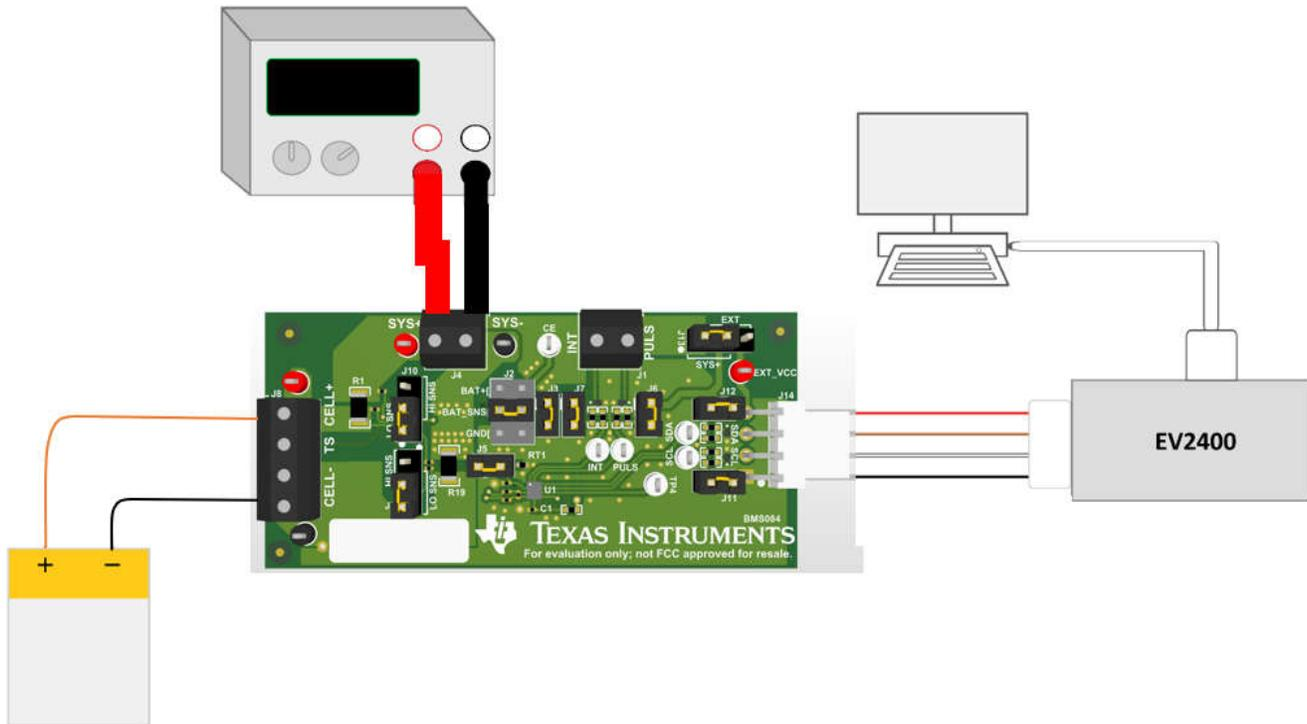
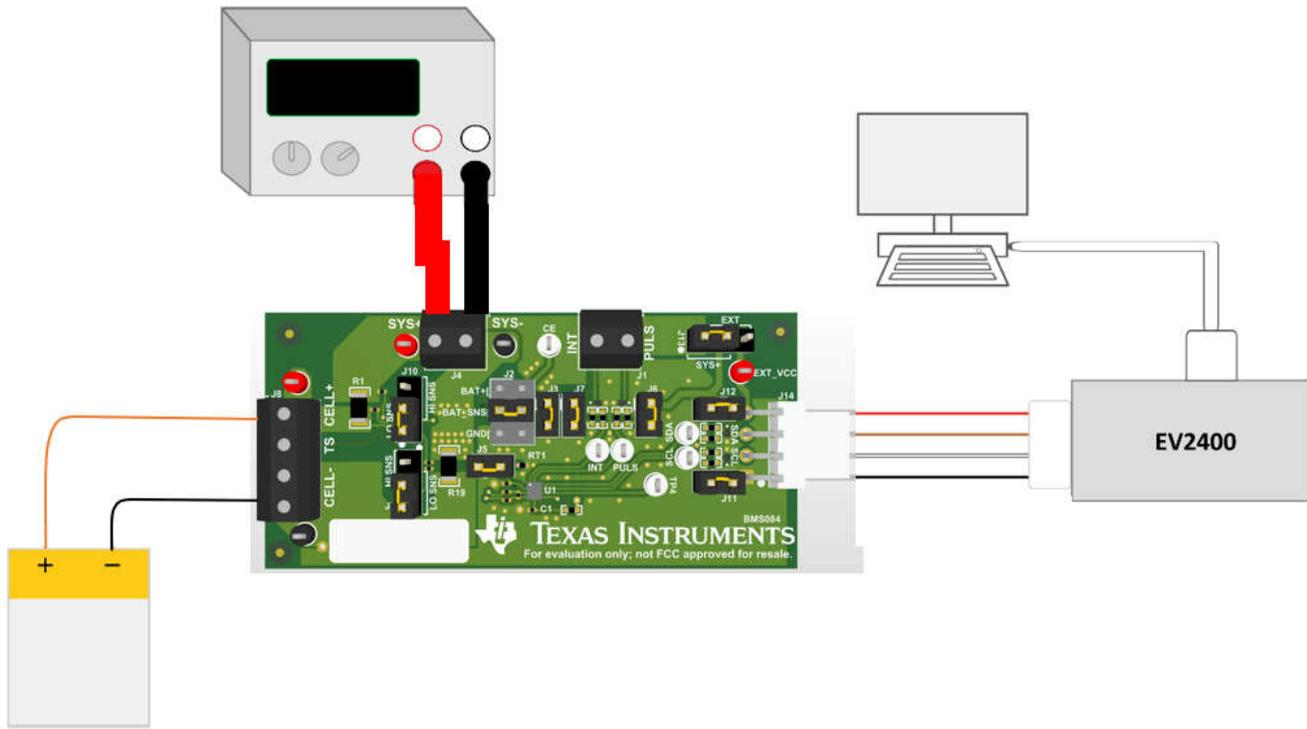

Figure 2-1. Connect the BQ27Z558 Circuit Module to a 1SxP
Figure 2-3. ChemID Hardware Setup
Figure 2-1 shows how to connect the BQ27Z558 circuit module to the battery, personal computer (PC), and a system load/charger.
Start by setting this hardware up as shown in Figure 2-3. This setup is identical to Figure 2-1.
Set up the EVM and other hardware as pictured in Figure 2-1. The BAT pins can be connected to a battery or a power supply, but the voltage of this source must be known to millivolt precision for accurate calibration.
The hardware setup for performing a learning cycle consists of the same setup as used in the Chemical ID process. This setup is described in Section 2.2.2 and shown in Figure 2-3. The charging and discharging process is very similar to a ChemID, except the first step is an initial discharge of the battery to the terminal voltage.